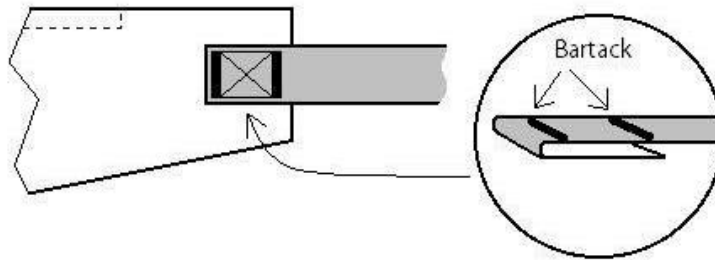

Figure 7. Attaching webbing to waist belt.
- 3.7 Sew 18" piece of 1" webbing onto the closed end (small end) of one of the waist belts. Fold end over and bartack as shown in *Figure 7*. Repeat for other waist belt, making sure you end up with a left and a right with the webbing sewn on the outside, so it won't rub against your waist.